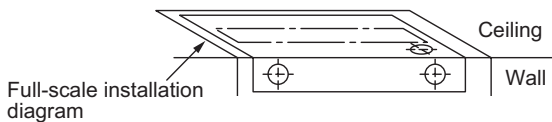

Fig. 2-56
- Place the full-scale diagram (supplied) on the ceiling at the location where you want to install the indoor unit. Use a pencil to mark the drill holes (Fig. 2-56).